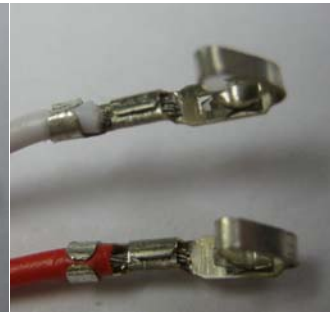

Fig 16c
- After this remove the backing plate (Z) to separate the two connectorised wires (see Fig 16c).